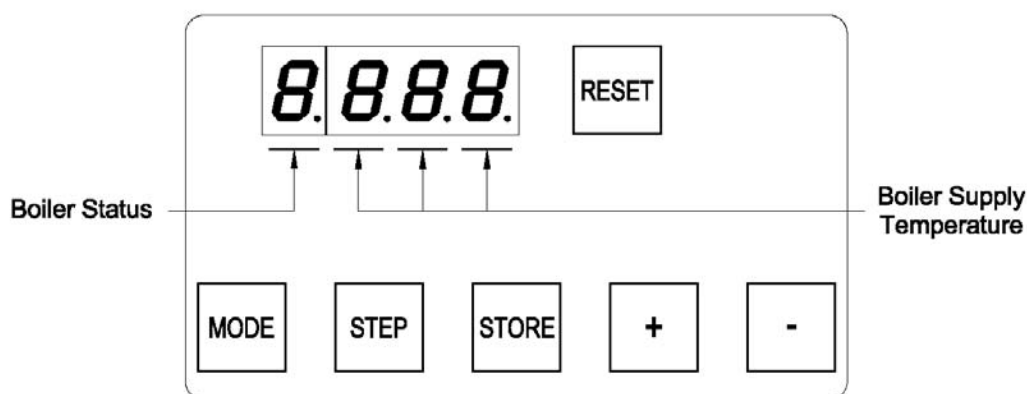

Figure 12.1: Normal Display In Standby Mode
Under normal conditions, the boiler is in standby mode and the display looks like that shown in Figure 12.1. The three digits to the right of the decimal point are the boiler’s supply temperature. The digit to the left of the decimal point is the boiler’s status code. A list of status codes, and their meanings, is shown in Table 12.3.
- c) “*Stby*” for Standby Mode. Upon entering standby mode, “Stby” will briefly appear on the display and then the display will show the boiler’s status along with the supply temperature (Figure 12.1).